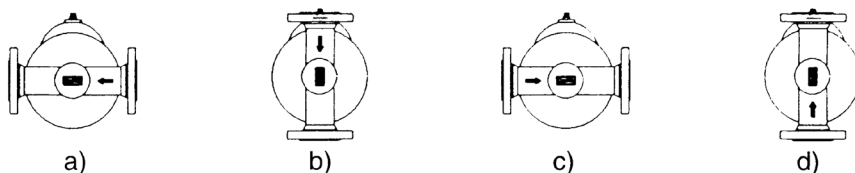
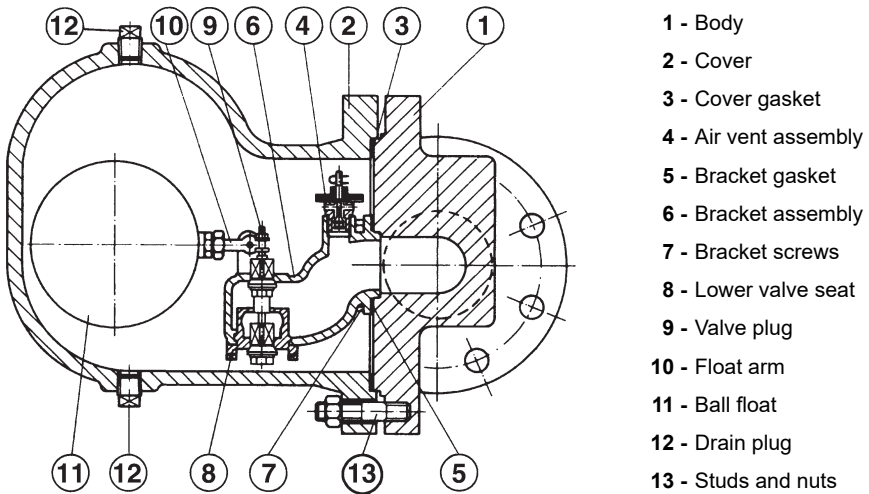

Fig. 2
Fig. 3
The device is supplied with the connections arranged in a horizontal line and in the direction of flow shown in Fig. 2a). To change the arrangement of the connections, use the following procedure, with reference to Fig. 2 and Fig. 3.
- Change the body position by moving the connections as desired, to one of the possible solutions given at Fig. 2 (a, b, c, d).